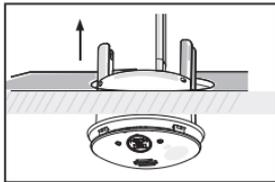

FIGURE 4
3. Fold the plastic ceiling clips back till to 180 degree position Figure 4.